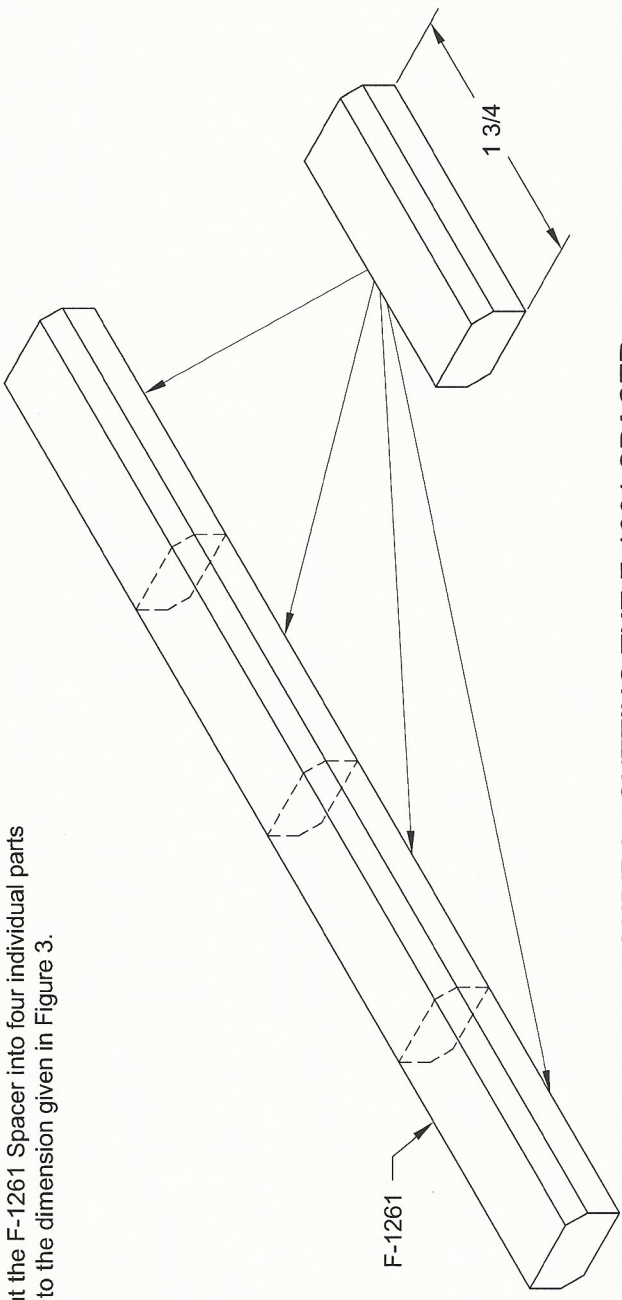

FIGURE 3: CUTTING THE F-1261 SPACER
Step 6: Cut the F-1261 Spacer into four individual parts according to the dimension given in Figure 3.